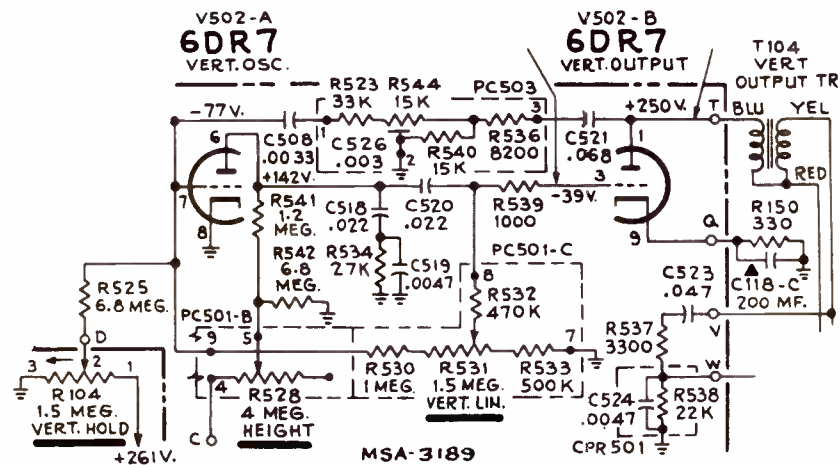

Figure 2: partial schematic of vertical sweep circuitry.
**Vertical Circuits**—Vertical sweep circuitry can be checked easily by employing a similar signal tracing procedure. Use an oscilloscope to check the waveforms on the grid of the vertical output tube (see Figure 2). If the proper waveform is found here, a check of the vertical deflection coil windings is in order. To do this, disconnect the yoke from the circuit and, with the set turned on, apply 6.3 volts ac (from a tube heater) across the yoke. If the yoke is operating satisfactorily, a non-linear raster will form with sections overlapping, since the sweep will be sine-wave in form and not saw tooth.